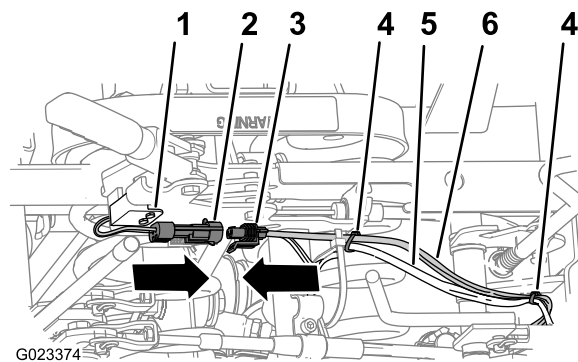

Figure 28
- Route the branch of the wire harness for the kit with the 2-pin connector forward to the parking-brake switch (Figure 28) that you installed in 5 Installing the Parking-Brake Switch \(page 6\).
- Connect the 2-pin socket connector of the wire harness of the kit to the 2-pin connector of the wire harness of the parking-brake switch (Figure 28).
- Secure the wire harness of the kit to the rear-main harness at the 2 location shown in Figure 28.